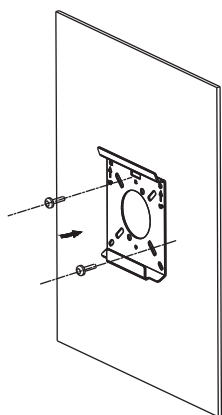

fig. 1
1. Fix the mounting plate on the Wall. Flat side should be toward the wall, both hooks should be facing up. (Figure 1)